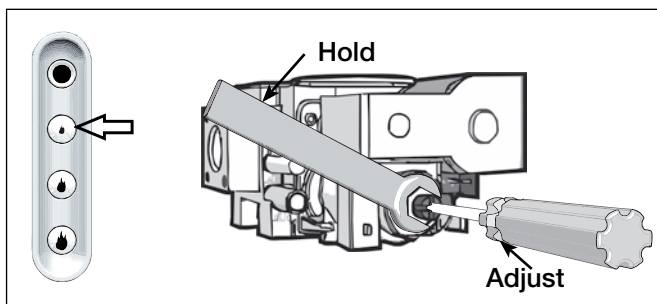

FIG 29
- Switch the control buttons to 'Low flame' position. Retain spanner in position and using a screwdriver adjust the central screw control to give a pressure low reading (refer to specification tables on page 8 & 9). **(Turn clockwise to increase pressure and anticlockwise to decrease pressure)**. Refer **FIG 29**.